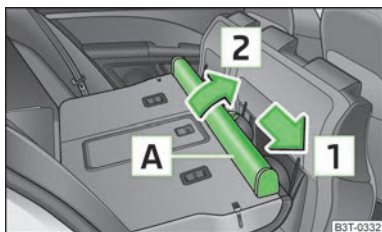

Fig. 80
- > Push the net partition housing » Fig. 80 in the direction of the arrow and remove it from the mounts on the rear seats in the direction of the arrow .
- > Push the net partition housing in the opposite direction of the arrow » Fig. 80 as far as the stop.